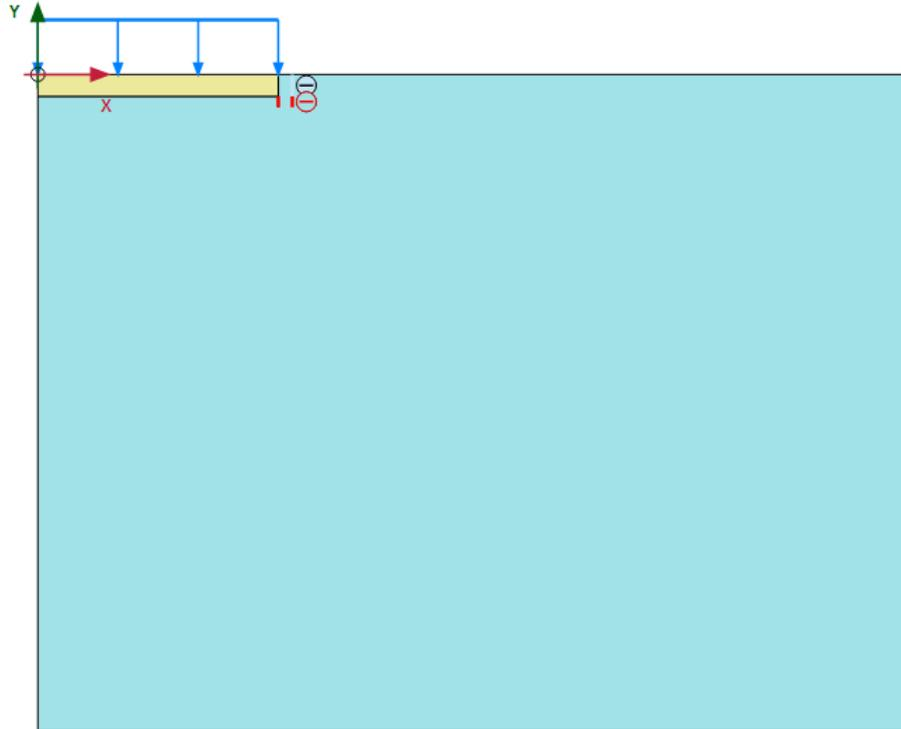

Figure 109: Geometry of the model
1. Click **Create interface** to create the upper part from (11.0, -1.0) to (11.0, 0.0), Figure 109 (on page 128).
2. Click **Create interface** to create the lower part (between foundation and soil) from (11.0, -1.5) to (11.0, -1.0), Figure 109 (on page 128).